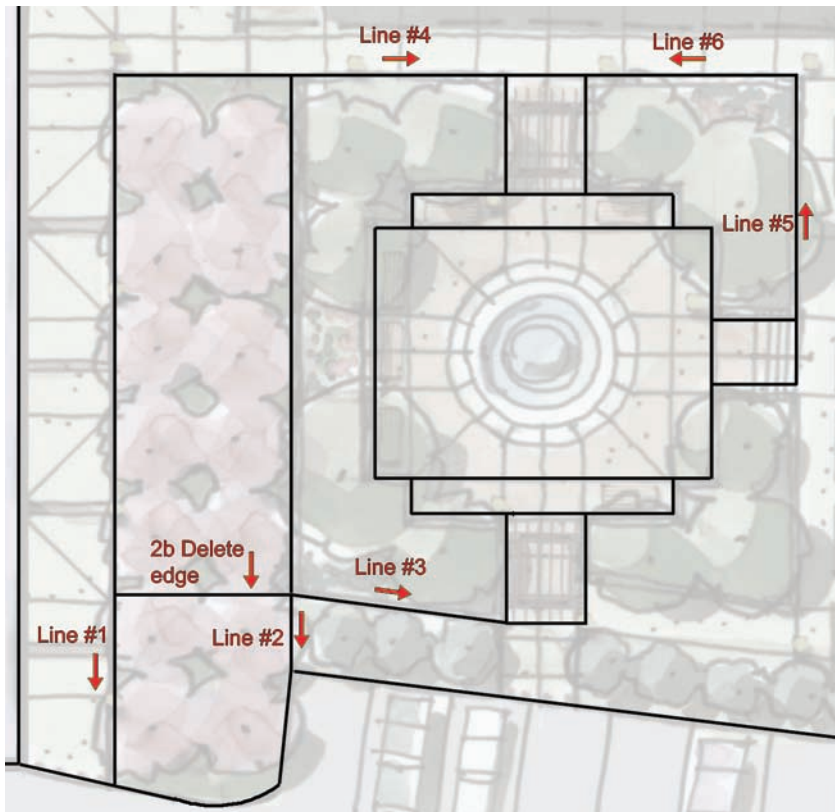
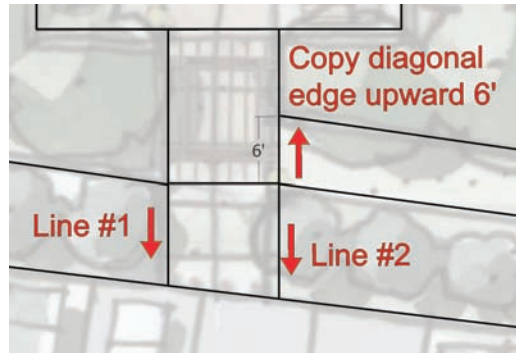

Fig. 7-14: Draw lines 1 through 6 as shown. The idea is to connect and further define and subdivide areas of the plaza.
Fig. 7-16: Add two lines from the bottom edge of the rectangle to the perimeter.
7. Draw the edges to complete each area as indicated in the diagrams. Make sure that the edges are drawn on axes (green and red) where applicable, and that the faces are subdivided. If faces do not subdivide, zoom in to the endpoints of the drawn line and make sure they are connected to the correct edges they were drawn to (Fig. 7-14 through Fig. 7-16).